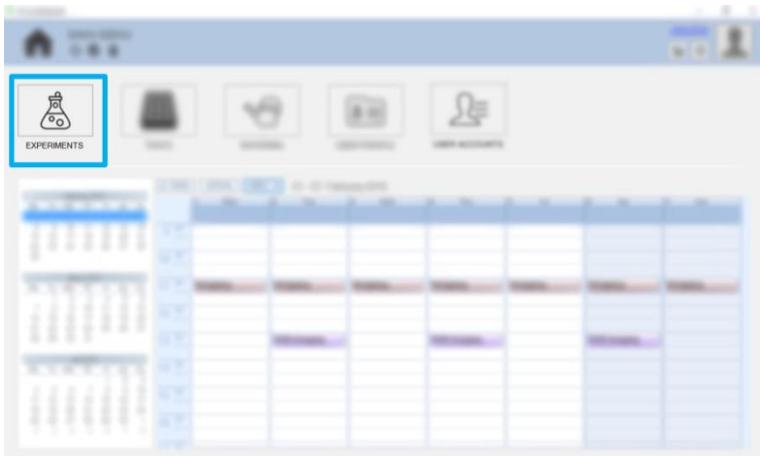

Fig. 9 Experiments picture button on the Main screen
*Experiments* window is opened by clicking the *Experiments* button located on the on the Main screen (Fig. 9).